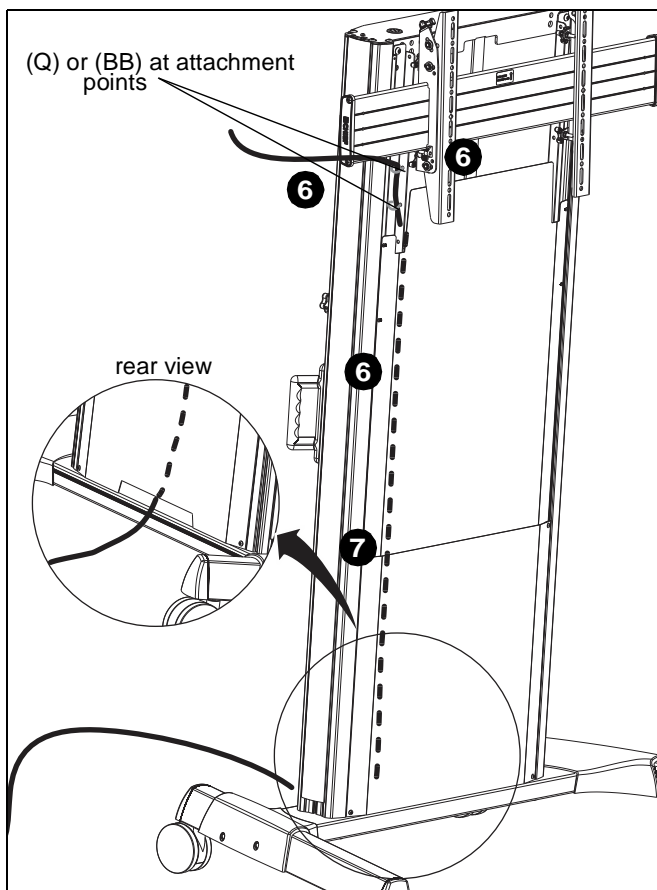

Figure 16
6. Route cables from display through inside of column assembly attaching at cable management attachment points and/or accessory bracket using cable ties (Q) or cable clips (BB) as desired. (See Figure 16)
(See Figure 16)